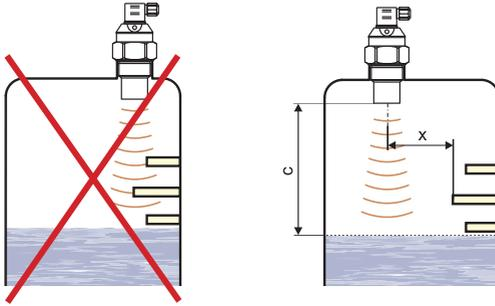

Fig. 6: Minimum distance of the level meter to nearby objects in the tank
- h) Emitted acoustic signal must not be affected by **near objects** (ladders, mixers, propellers, etc.), stream of filling, air flow, etc. (Fig. 6).